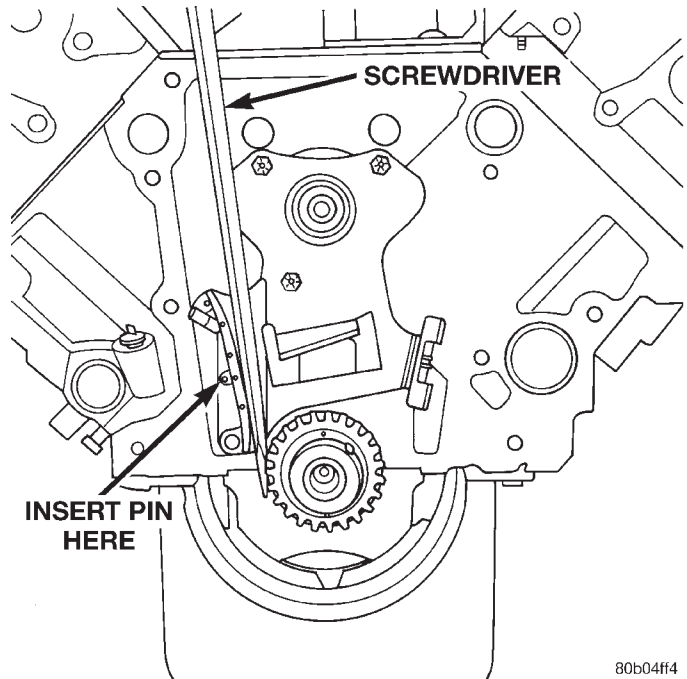

Fig. 33 Compressing Tensioner Shoe For Timing Chain Installation
- (4) Install timing chain tensioner. Torque bolts to 24 N·m (210 in. lbs.) torque.
- (5) Compress tensioner shoe (Fig. 33) and install a suitable sized pin to retain shoe for chain installation.